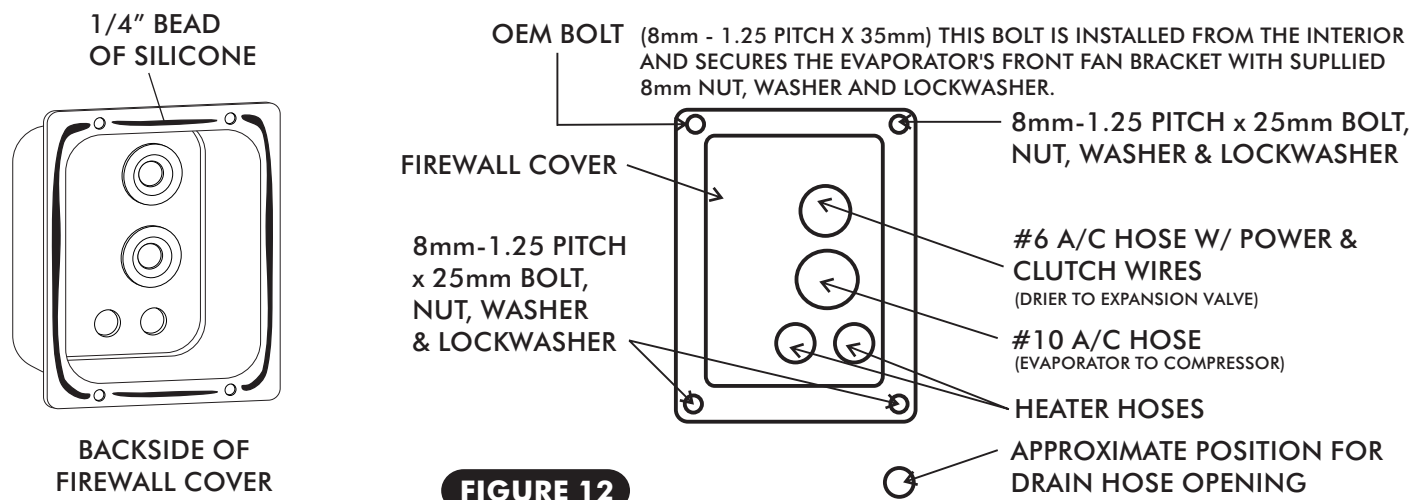

FIGURE 12
- APPLY A 1/4" BEAD OF SILICONE AROUND THE BACKSIDE OF THE FIREWALL COVER AND INSTALL FIREWALL COVER. SEE FIGURE 12.